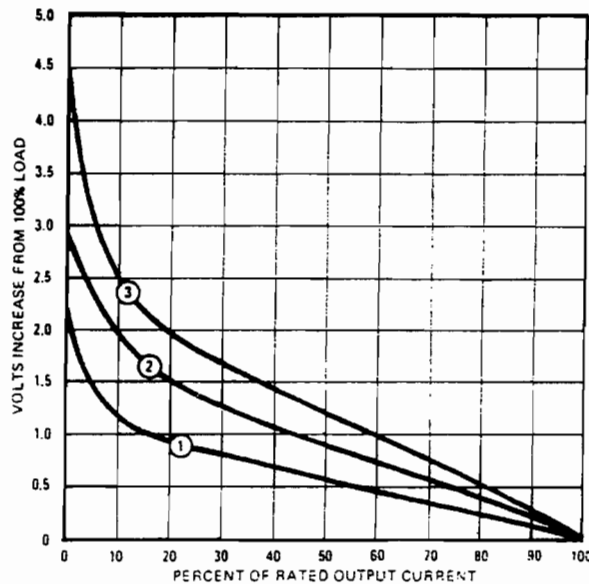

FIG. 2 TYPICAL LOAD EFFECT CURVES FOR PRR MODELS
LOAD EFFECT: See Table 1 and applicable load effect curve in FIG. 2.
OUTPUT VOLTAGE ACCURACY: Within $\pm 2\%$, or 0.25V, whichever is greater, of the specified output voltage, at nominal source voltage, 30°C ambient temperature, at maximum load and following a 30-minute warm-up period. Allow for an initial (cold) voltage approximately 1% higher than the specified output voltage accuracy. The output voltage increase at output current levels less than the maximum rated may be read from the load effect curves (FIG. 2) and must be added to the nominal output level.
- B) **OUTPUT IMPEDANCE:** The impedance at d-c and at frequencies below 10 KHz is a function of the load effect curves shown in FIG. 2. It may be determined from the slope of the plotted curves ($Z_o = \Delta E_o / \Delta I_o$). The output impedance at frequencies above 10 KHz can be computed by adding the effect of a 2 μ H series inductance to the low frequency value found in FIG. 2.